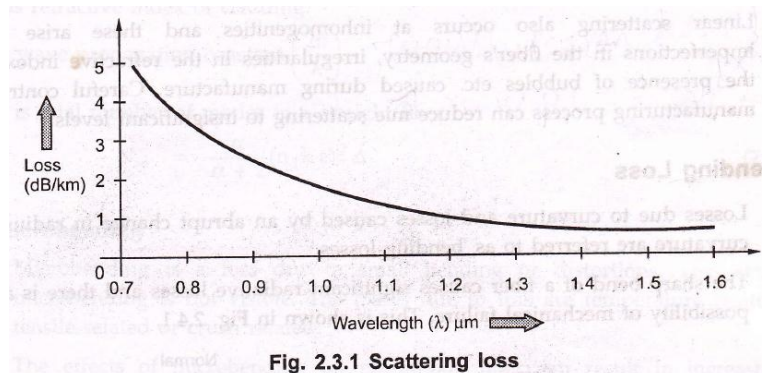

Fig. 2.3.1 Scattering loss
- The other cause is slight change in density as the silica cools and solidifies. When light ray strikes such zones it gets scattered in all directions. The amount of scatter depends on the size of the discontinuity compared with the wavelength of the light so the shortest wavelength (highest frequency) suffers most scattering. Fig. 2.3.1 shows graphically the relationship between wavelength and Rayleigh scattering loss.